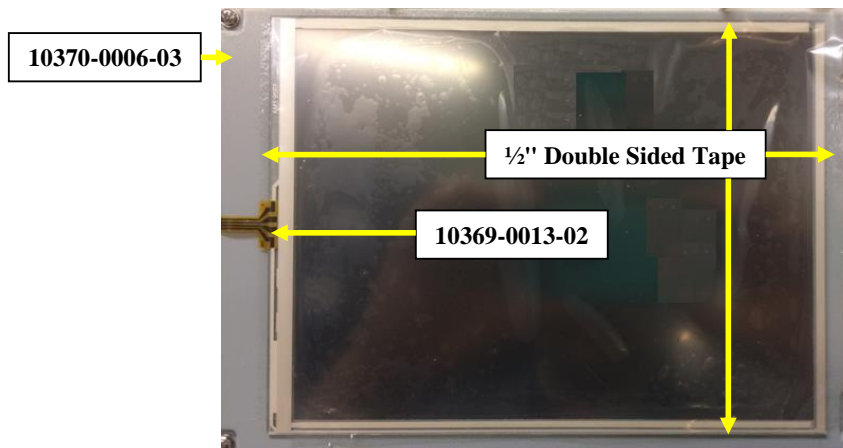

Figure 30
- 13.1. Attach the Touch Screen (10369-0013-02) to the LCD Display (10370-0006-03) using twenty-five (25) inches of ½" double sided tape (3M, Model #926 or equivalent) around all sides as shown in Figure 30. Note the orientation of the Touch Screen to the Display and make sure the active area of the Touch Screen aligns with the active area of the Display. Make sure there is no dust or particles between the Touch Screen and Display.